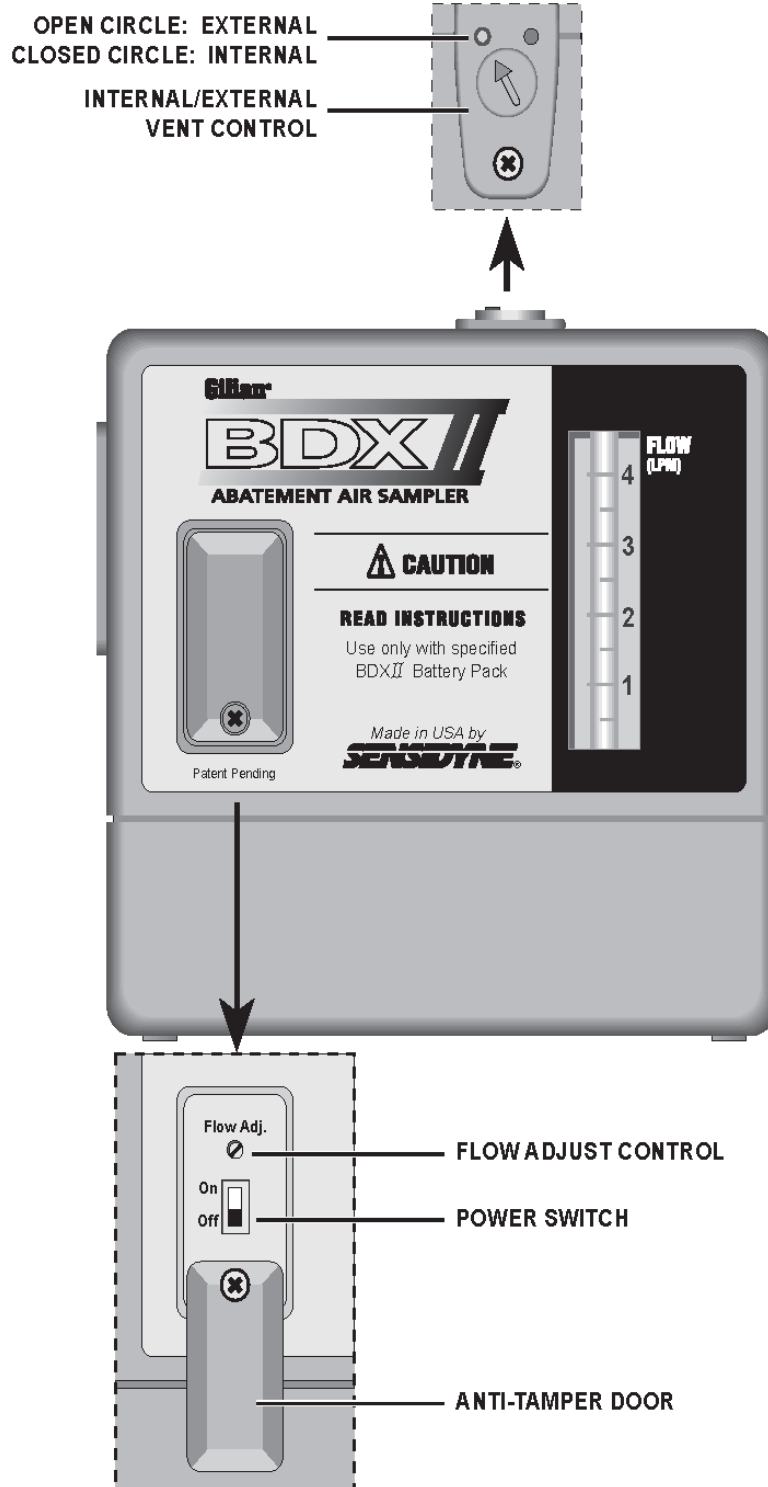
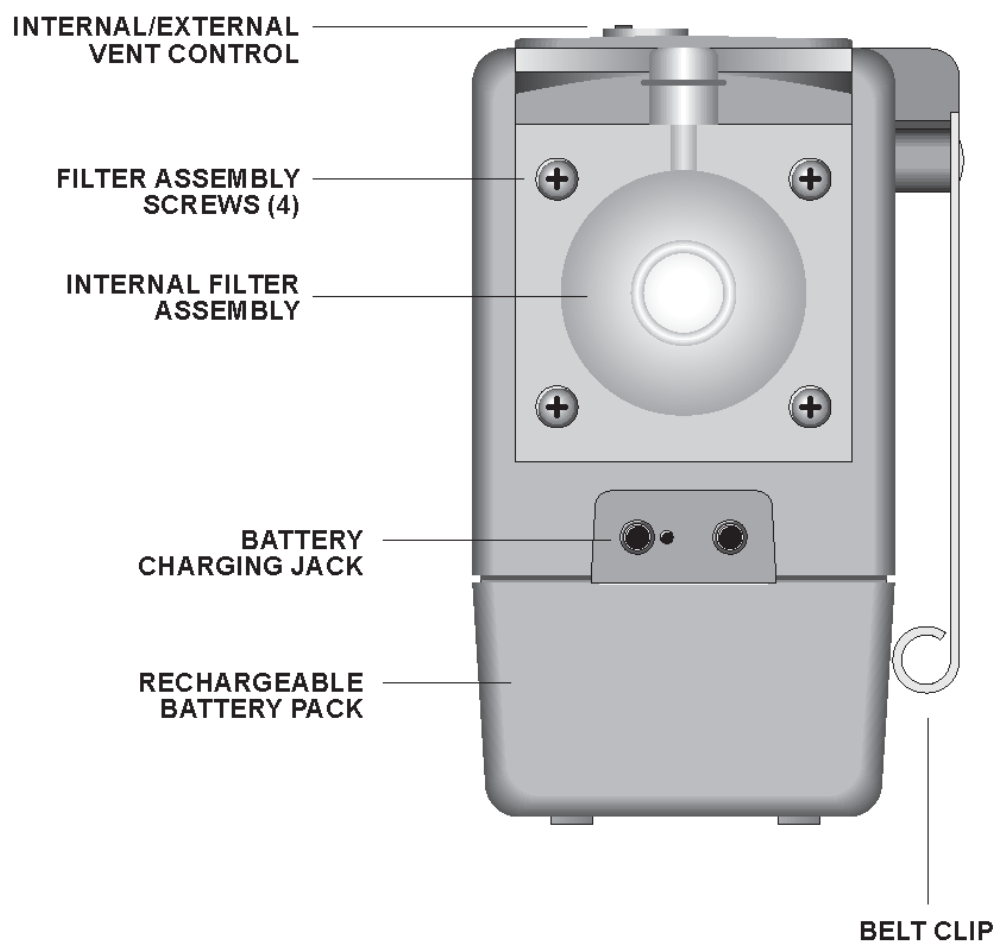

Figure 1.1
Figure 1.2
The BDXII Abatement Air Sampler consists of a pump contained in a Lexan plastic case, electronic flow control system, a pneumatic system, and a rechargeable battery pack. The BDXII is shown in Figure 1.1 and Figure 1.2.
- 2) Using a small Phillips screwdriver, back out the holding screw just enough so the anti tamper cover plate can be rotated 180. This exposes the On/Off switch and the flow adjust screw (See Figure 1.1).